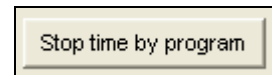

Figure 16.1.15C
12. You can set a stop time for each program by clicking on the **Stop time by program** button (Figure 16.1.15C).